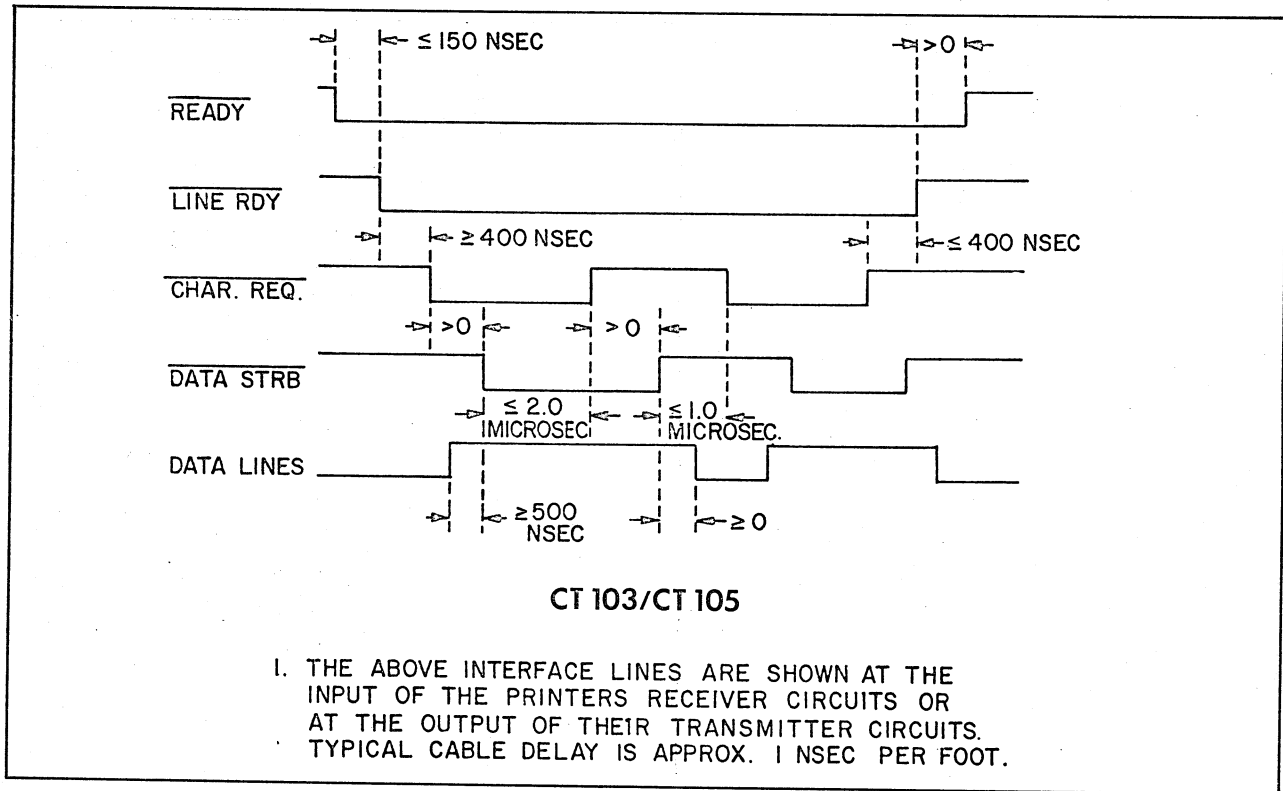

FIGURE 0-18. STANDARD INTERFACE TIMING
The controller operates on an interlocked handshaking technique. The interlocked feature simply means that there are no stringent timing requirements on the data exchange signals. Transitions from one logic level to the other rather than pulses are used to exchange data. The printer controller asks for a character by placing in CHARACTER REQUEST signal at a Logic "0". The data source responds by placing the DATA STROBE line at a Logic "0". The printer will drop the CHARACTER REQUEST signal when the data byte has been sampled. When the printer senses the removal of DATA STROBE, it will generate another CHARACTER REQUEST when it is ready to accept another character. Therefore, the timing requirements are that, (1) CHARACTER REQUEST must be false, and data must be stable at least .5 microseconds prior to the generation of DATA STROBE, (2) The data source must sense the removal of the CHARACTER REQUEST signal before the DATA STROBE signal is removed and (3) Data be removed concurrently or after DATA STROBE is removed. Refer to Figure 0-18 showing the interface timing.
An interface line from the printer which when false (logic "0") indicates that the controller is ready to accept a data character from the data source. The data source must sense this line before the DATA STROBE signal is generated. This line will go true after the data byte has been sampled, and the DATA STROBE signal may be removed at this time, but not prior to sensing CHARACTER REQUEST being true. See Figure 0-18.